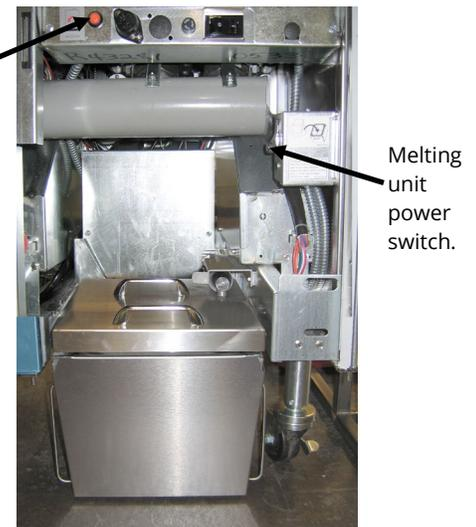

Figure 7: The assembled melting unit is shown in position.
9. Ensure the melting unit power switch is in the "ON" position. See Figure 7.